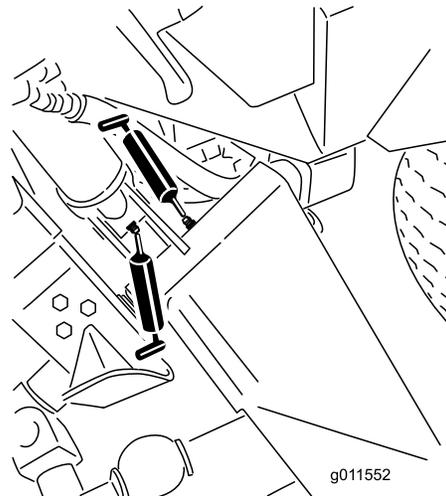
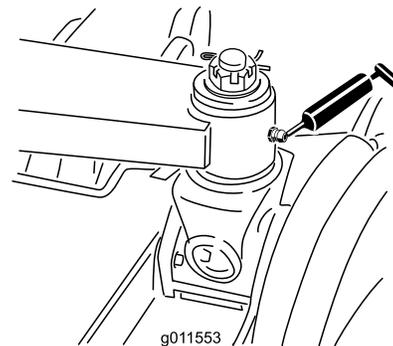

Figure 50
Figure 51
- 6 main lift-arm bushings (Figure 50 and Figure 51)